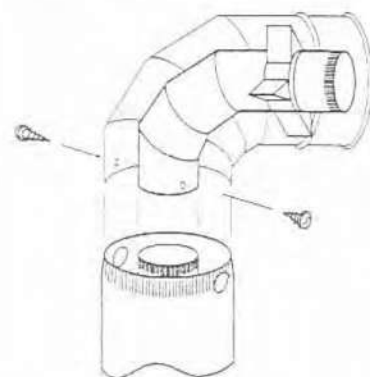
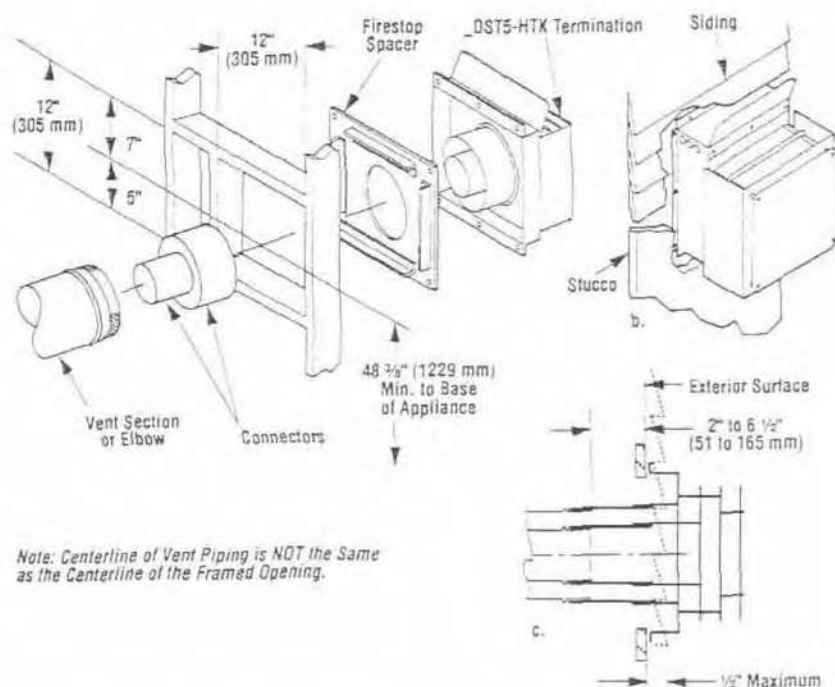

Figure 30
Figure 31
B. Locate the center of the vent outlet on the exterior wall. Cut and/or frame a 12" x 12" (305 mm x 305 mm) inside opening about the center. Install firestop (supplied with the termination) at outer surface with indicated "top" surface in up position. (*Figure 31*)
The elbow may be mounted to the top of the appliance where direct connection to the outside wall is necessary. See inset at *Figure 31*. Slide the outer elbow over the inner and slip down over the outer vertical section (*Figure 30*). Drill, fasten and seal with sealant as in Steps E and F.
K. To install the _DST5-HTK apply a liberal bead of _Mill-Pac Black (700°F) high temperature sealant at the inner mounting flange for sealing purposes. Orient the housing with surface marked "top" upward. Visually align at the opening and carefully insert to engage over both inner and outer connector tubes. Slide inward until the housing bottoms at the finished exterior wall. **The horizontal termination must not be recessed into the exterior wall or siding by more than $\frac{1}{2}$ "**, as shown in Figure 31b and c, above. Secure with 6d nails at holes in upper and lower flanges (Figure 31).